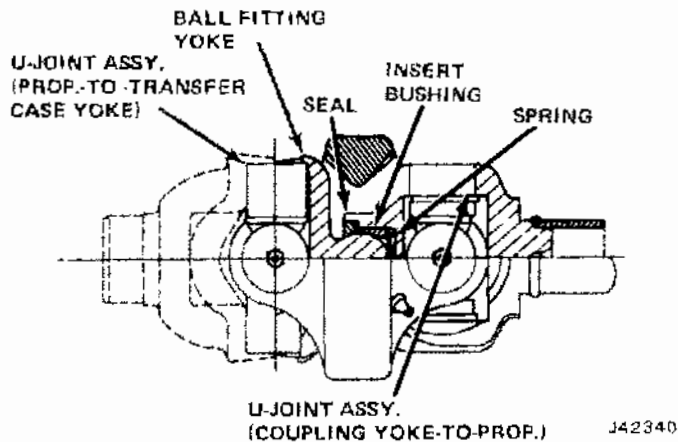

Fig. 10-52 Double Cardan Joint
**NOTE:** Repair of single and double Cardan joints are similar except for the center ball and socket in the double Cardan joint (Fig. 10-52). The rollers and bushings are replaceable once the joint is disassembled.
(1) Position tube of propeller shaft, near cross-type universal joint, in a bench vise; clamp lightly.
(2) Remove two cup retainer rings, which fasten bearing cups to tube yoke. If necessary, tap ends of